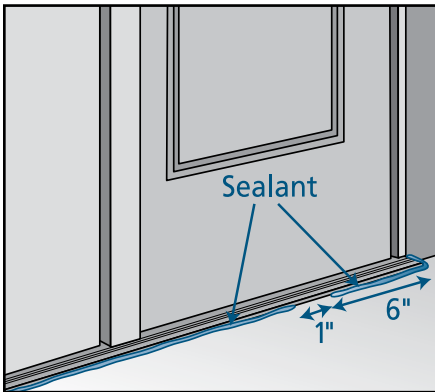

Fig. 47
- Apply a **1/4"** bead of sealant underneath the sill, leaving a **1"** gap **6"** from each end (**Fig. 47**).